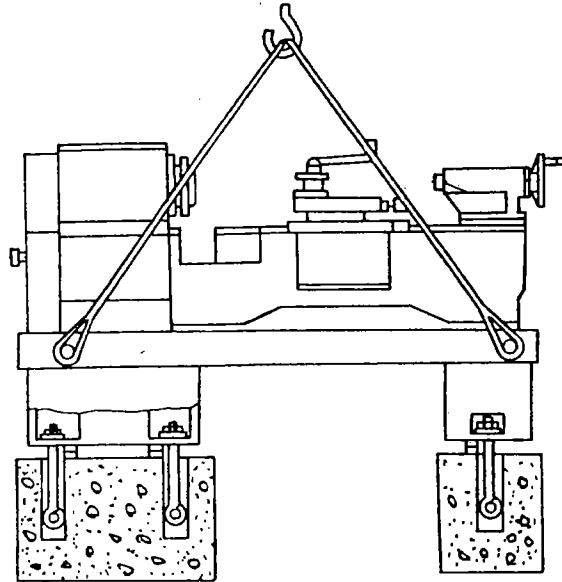

Fig. 1
4. Sling lathe as diagrammed in Fig. 1. **Do not lift by spindle.** With adequate lifting equipment, slowly raise the lathe off the shipping crate bottom. Make sure lathe is balanced before moving. Fig. 1 also shows suggested lathe anchoring system.